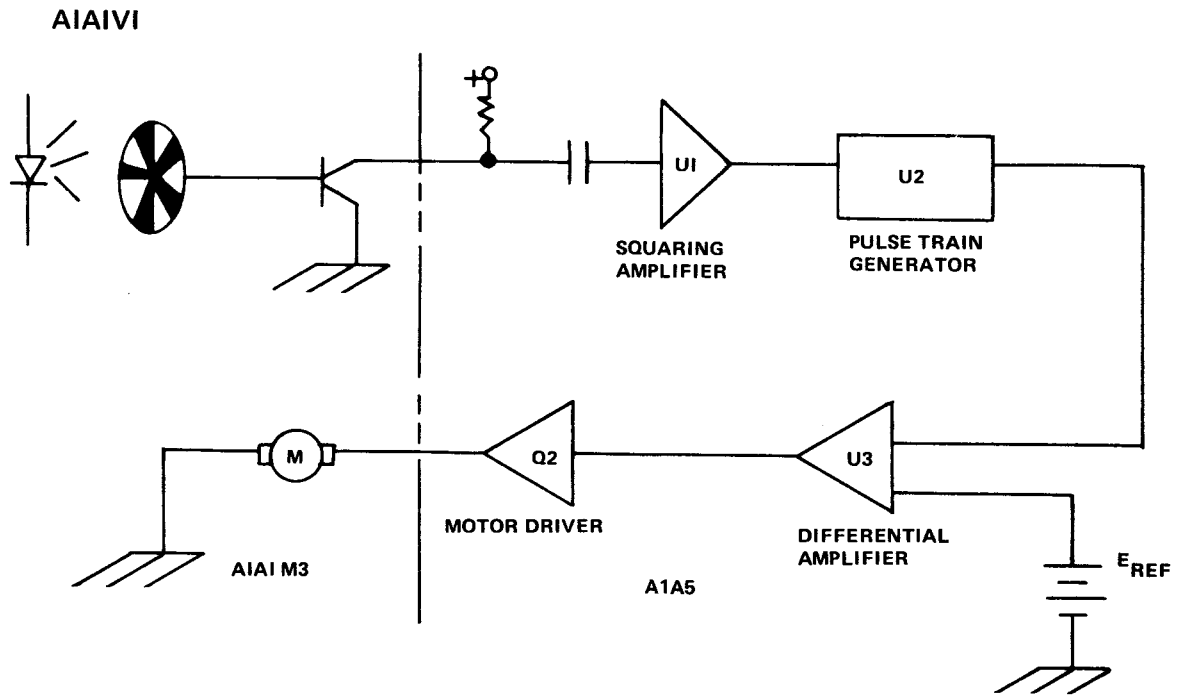

FIGURE 6-4
g. Capstan Motor Servo Circuit. (See Figure 6-4.) Capstan servo control is provided by a closed loop, DC referenced servo system. Shaft speed information is provided by an optical tachometer. The servo loop consists of the motor A1A1M3, tachometer, A1A1VI, and the servo control board, A1A5. Voltage for the tachometer photo-transistor is supplied by the servo plug-in card. A nearly sinusoidal wave is applied to a